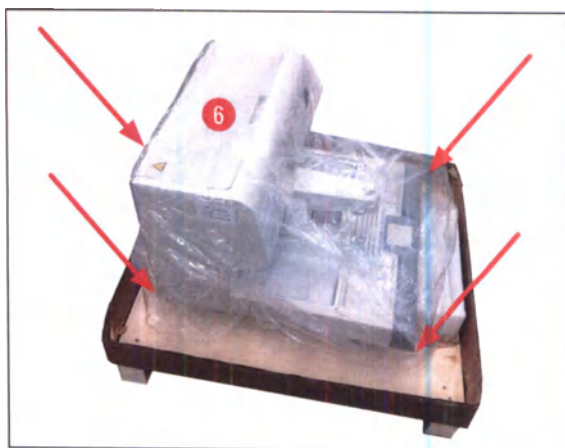

Fig. 21
5. Ensure that when removing the instrument (→ Fig. 21-6) from the pallet this is carried out by two people lifting four lower corners of the housing base (→ Fig. 21).